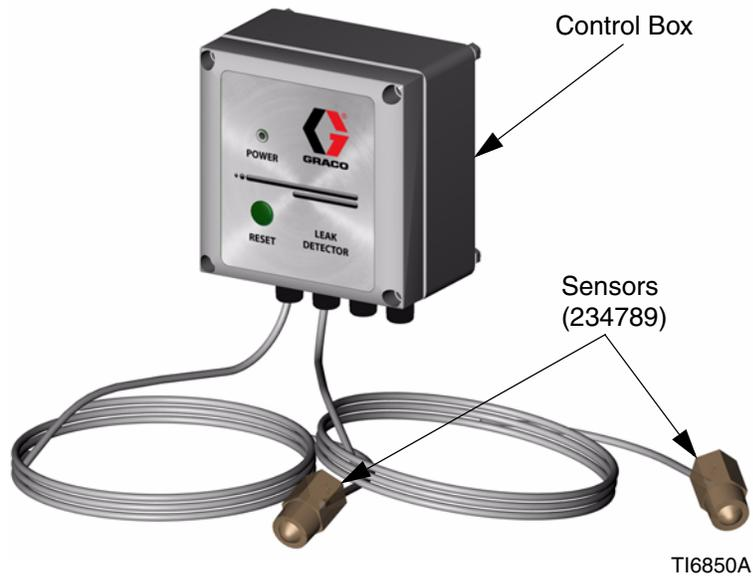
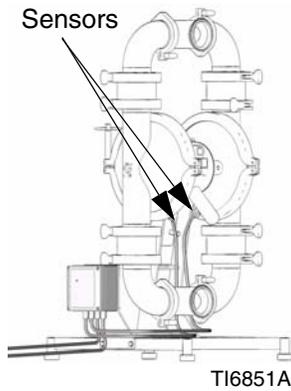

FIG. 1
FIG. 5
The sensors are mounted on the pump to detect liquid on the air side of the diaphragm. See FIG. 1, FIG. 2, and FIG. 5.
3. Remove the sensor covers. Connect the leak detector to the pump by screwing the sensors into the pump. Use thread sealant, as needed. See FIG. 5.